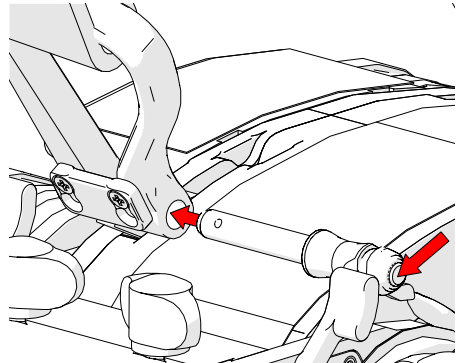

Fig. 13 - Insert pin
4. Align the tether attachment point and shackle. Insert the pin while pressing the pin's release button (Fig. 13).